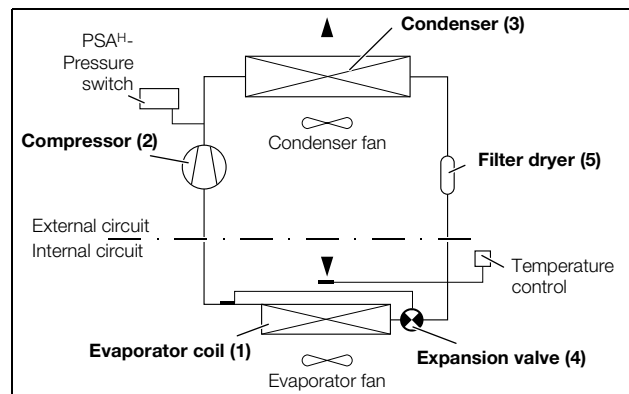

Fig. 3: Cooling circuit
The cooling unit (compression refrigeration system) comprises four main components (see fig. 3): the evaporator (1), the refrigerant compressor (2), the condenser (3), and the control or expansion valve (4), which are connected by suitable pipework. This circuit is filled with a readily boiling substance, the refrigerant. The refrigerant R134a (CH_2FCF_3) is chlorine-free. Its Ozone Depletion Potential (ODP) is 0, making it very eco-friendly. A filter dryer (5) which is integrated into the hermetically sealed cooling circuit provides effective protection against moisture, acid, dirt particles, and foreign bodies within the cooling circuit.